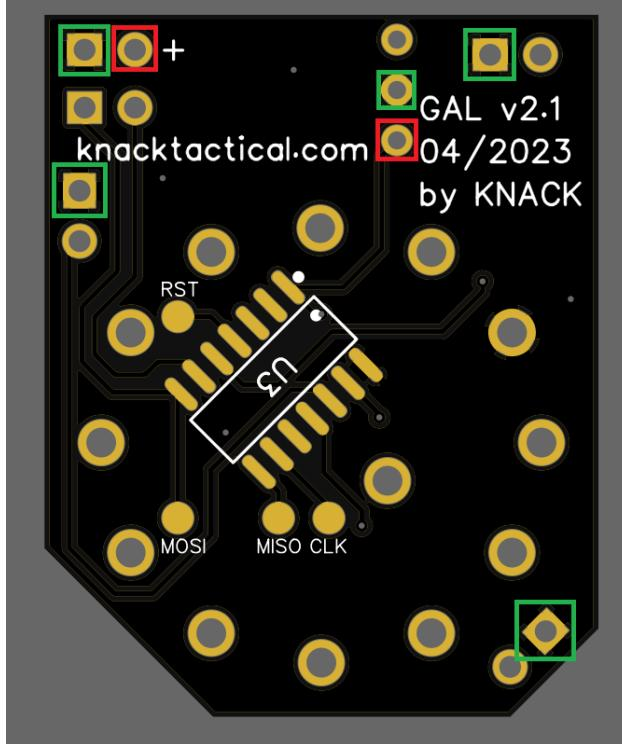

Figure 1
- Arduino +5V (or +3.3V, doesn't matter) → Any VCC Pin on the PCB (see Figure 1)
- Arduino GND → Any GND Pin on the PCB (see Figure 1)
- Arduino Pin 10 (SS) → RST pad on PCB
A quick tip, all of the square through-hole pins on the PCB are GND except the VIS Laser pin. See Figure 1.